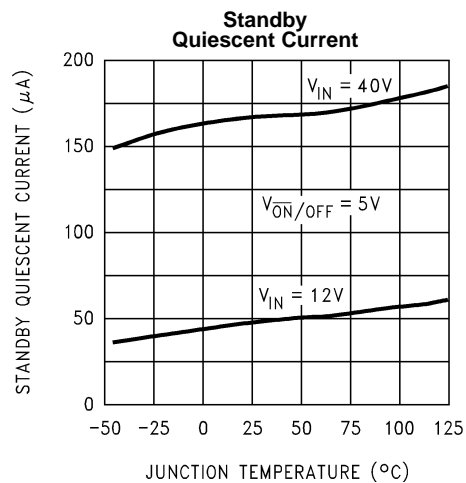

Figure 9.
- (1) All limits specified at room temperature (Standard type face) and at temperature extremes (bold type face). All room temperature limits are 100% production tested. All limits at temperature extremes are specified via correlation using standard Statistical Quality Control (SQC) methods. All limits are used to calculate Average Outgoing Quality Level.
- (2) The oscillator frequency reduces to approximately 18 kHz in the event of an output short or an overload which causes the regulated output voltage to drop approximately 40% from the nominal output voltage. This self protection feature lowers the average power dissipation of the IC by lowering the minimum duty cycle from 5% down to approximately 2%. Figure 9
- (3) Output pin sourcing current. No diode, inductor or capacitor connected to output pin.
- (4) Feedback pin removed from output and connected to 0V.
- (5) Feedback pin removed from output and connected to +12V for the Adjustable, 3.3V, and 5V versions, and +25V for the 12V and 15V versions, to force the output transistor OFF.
- (6)  $V_{IN} = 40\text{V}$  (60V for high voltage version).
- (7) Junction to ambient thermal resistance with approximately 1 square inch of printed circuit board copper surrounding the leads. Additional copper area will lower thermal resistance further. See Application Hints in this data sheet and the thermal model in Switchers Made Simple software.
- (8) Junction to ambient thermal resistance with approximately 4 square inches of 1 oz. (0.0014 in. thick) printed circuit board copper surrounding the leads. Additional copper area will lower thermal resistance further (See Note 7)